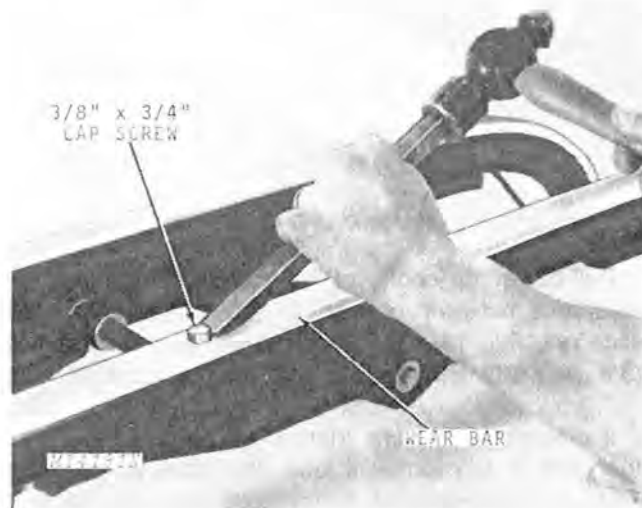

Fig. 9-Removing Slide Rail Wear Bar
2. Install a 3/8 x 3/4-inch cap screw and use a chisel or steel bar to drive wear bar out rear, Fig. 9.